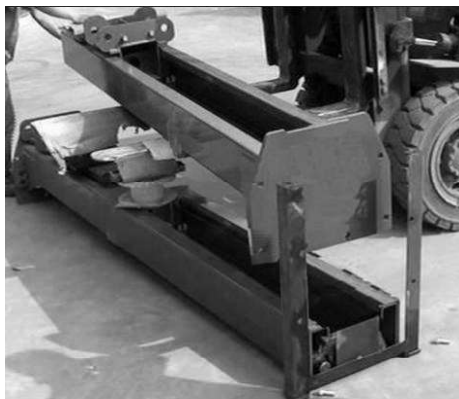

Fig. 10
4. Lift the upper column with a fork lift or hoist, loose the bolts of the upper package stand, take off the upper extension column, then take out the parts in the inner column (See Fig. 10).